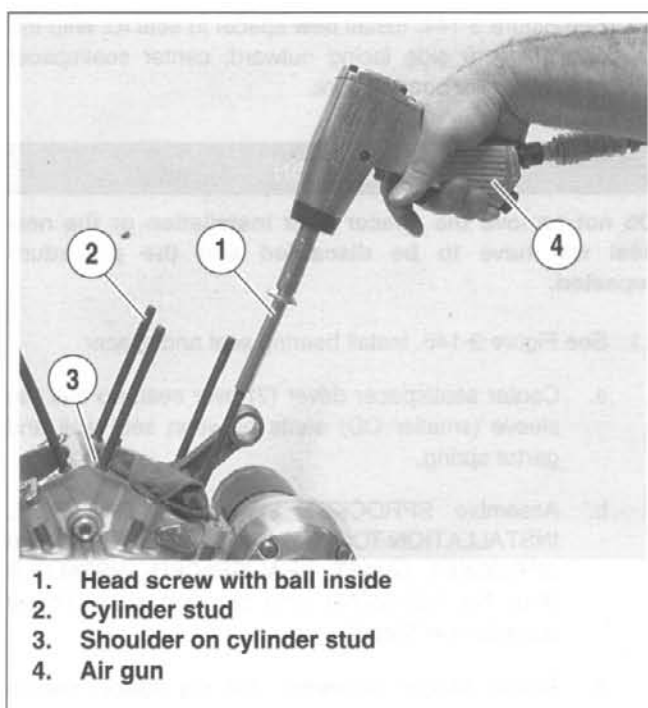

Figure 3-147. Cylinder Studs
14. See Figure 3-147. Install cylinder studs.
- b. Place a steel ball into a head screw (1).
- c. The cylinder studs (2) have a shoulder (3) at the lower end. Place the end of the stud without the shoulder into the head screw.
- d. Install the stud in the crankcase with the shoulder end down. Use an air gun (4) to drive the stud until the shoulder reaches the crankcase.